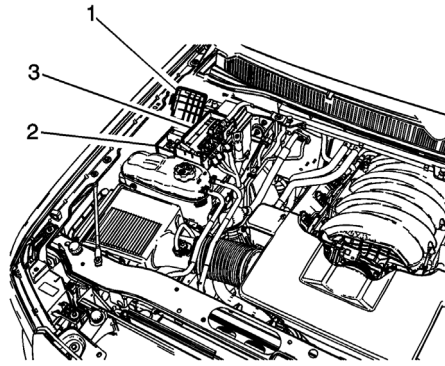

Fig. 3 Battery fuse block removal
3. Open battery positive cable clamp cover (1) and loosen battery positive cable clamp fastener (2), **Fig. 3**.
4. Remove battery fuse block (3) and set aside, **Fig. 3**.
3. Install battery fuse block (3) to battery positive post and torque fastener (2) to 44 inch lbs., **Fig. 3**.
4. Close battery positive cable cover (1), **Fig. 3**.